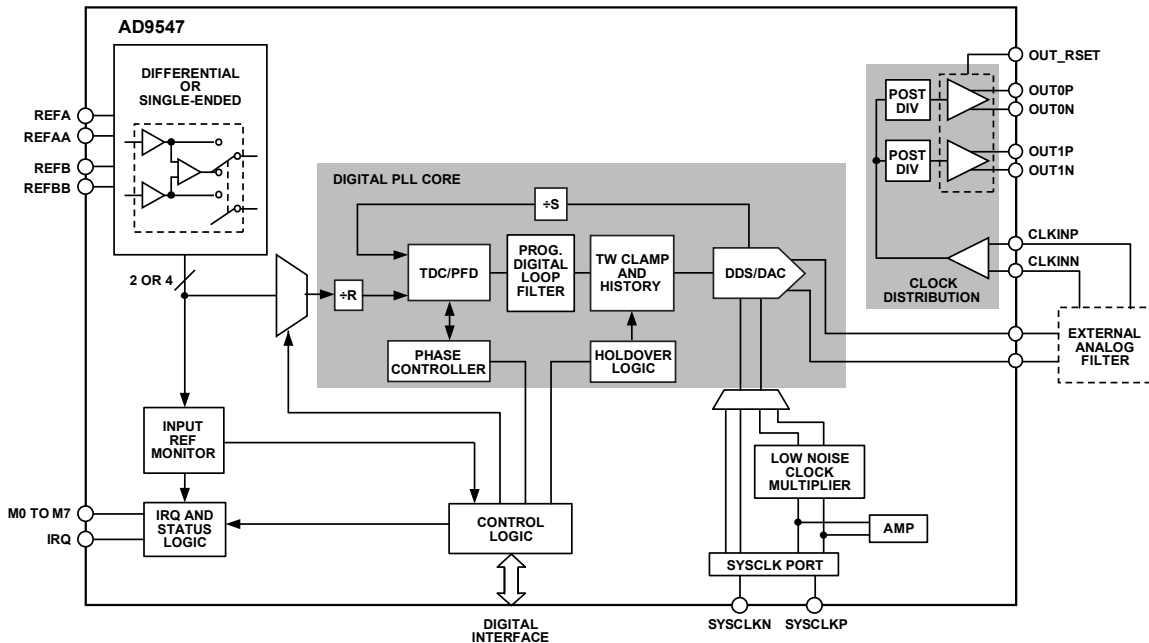

Figure 32. Detailed Block Diagram
The device offers manual and automatic reference switchover capability if the active reference is degraded or fails completely. A direct digital synthesizer (DDS) and integrated DAC constitute a digitally controlled oscillator (DCO). The DCO output is a sinusoidal signal (450 MHz maximum) at a frequency that is determined by the active reference frequency and the programmed values of the reference prescaler (R) and feedback divider (S). Although not explicitly shown in Figure 32, the S divider has both an integer and fractional component, which is similar to a fractional-N synthesizer.